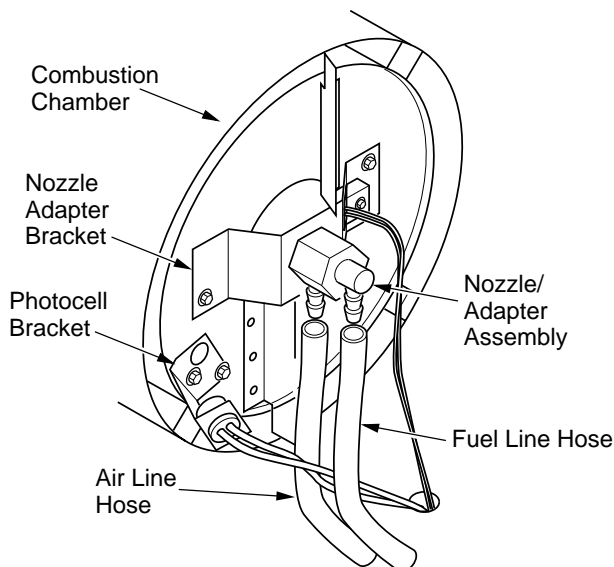
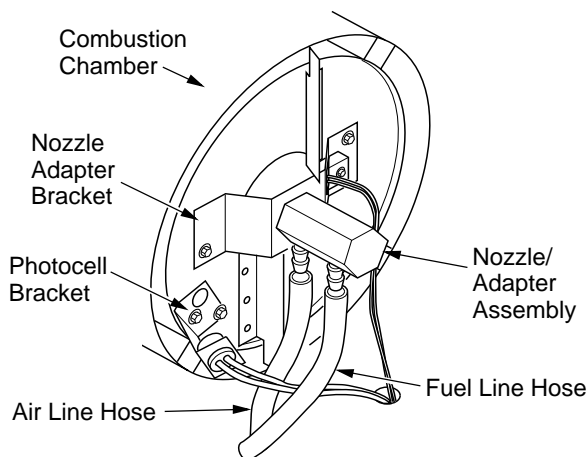
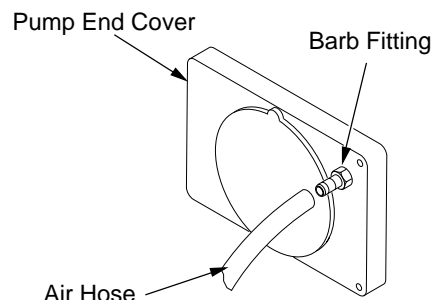
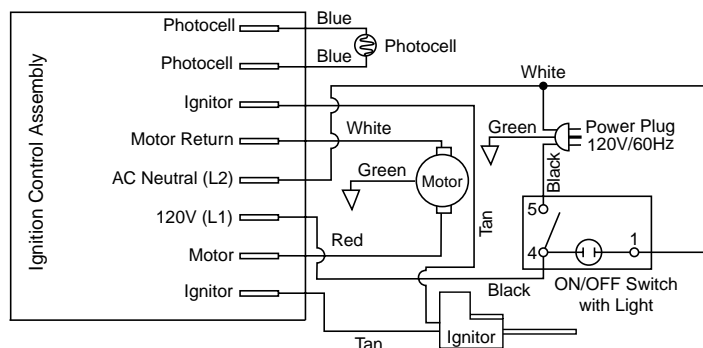

Figure 17 - Removing Air and Fuel Line Hoses
Figure 20 - Removing Air and Fuel Line Hoses (200VT Model Only)
Figure 22 - Air Hose to Barb Fitting
Figure 28 - Wiring Diagram (100VT and 140VT Models)
14. Replace photocell in photocell bracket. Route wires as shown in either Figure 17, page 13, or Figure 20, page 14, according to model.
3. Remove fuel and air line hoses from nozzle assembly (see Figure 17).
3. Remove two nozzle adapter bracket screws (see Figure 20).
4. Inspect fuel and air line hoses for cracks and/or holes. If fuel line hose is damaged, disconnect from nozzle adapter (see Figure 17, page 13, or Figure 20, according to model) and from fuel filter (see *Fuel Filter*, pages 10 and 11). If air line hose is damaged, disconnect from nozzle adapter (see Figure 17, page 12, or Figure 20, according to model) and from barb fitting on pump end cover (see Figure 22).
5. Install new air and/or fuel line. Attach one end of air line hose to barb fitting on pump end cover (see Figure 28) and the other end to nozzle adapter (see Figure 17, page 13, or Figure 20, according to model). Attach one end of fuel line hose to fuel filter (see *Fuel Filter*, pages 10 and 11) and the other end to nozzle adapter (see Figure 17, page 13, or Figure 20, according to model).
Note: Route hoses as shown in see Figure 17, page 12, or Figure 20, according to model. Hoses are not to touch photocell bracket.